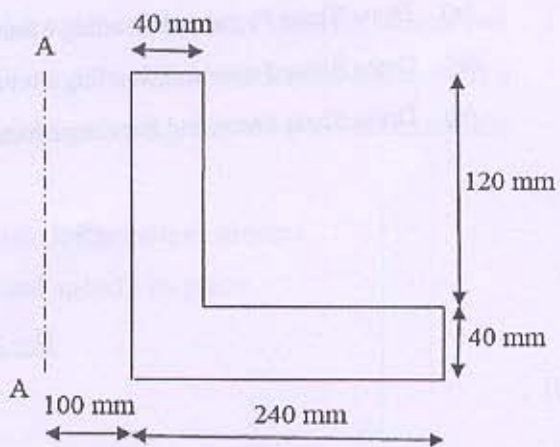

Figure 6
- (b) Compute the moment of inertia of the cross-section as shown in **Figure 6** about axis AA. [05]